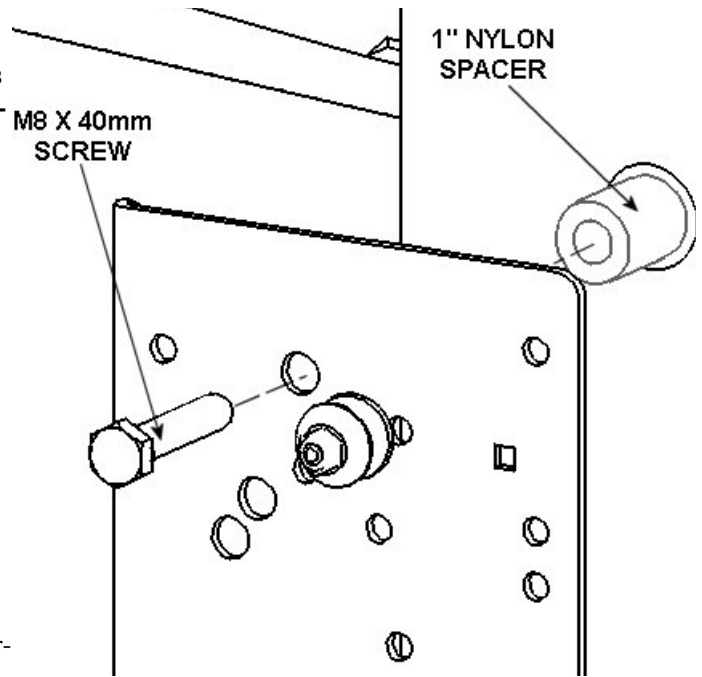
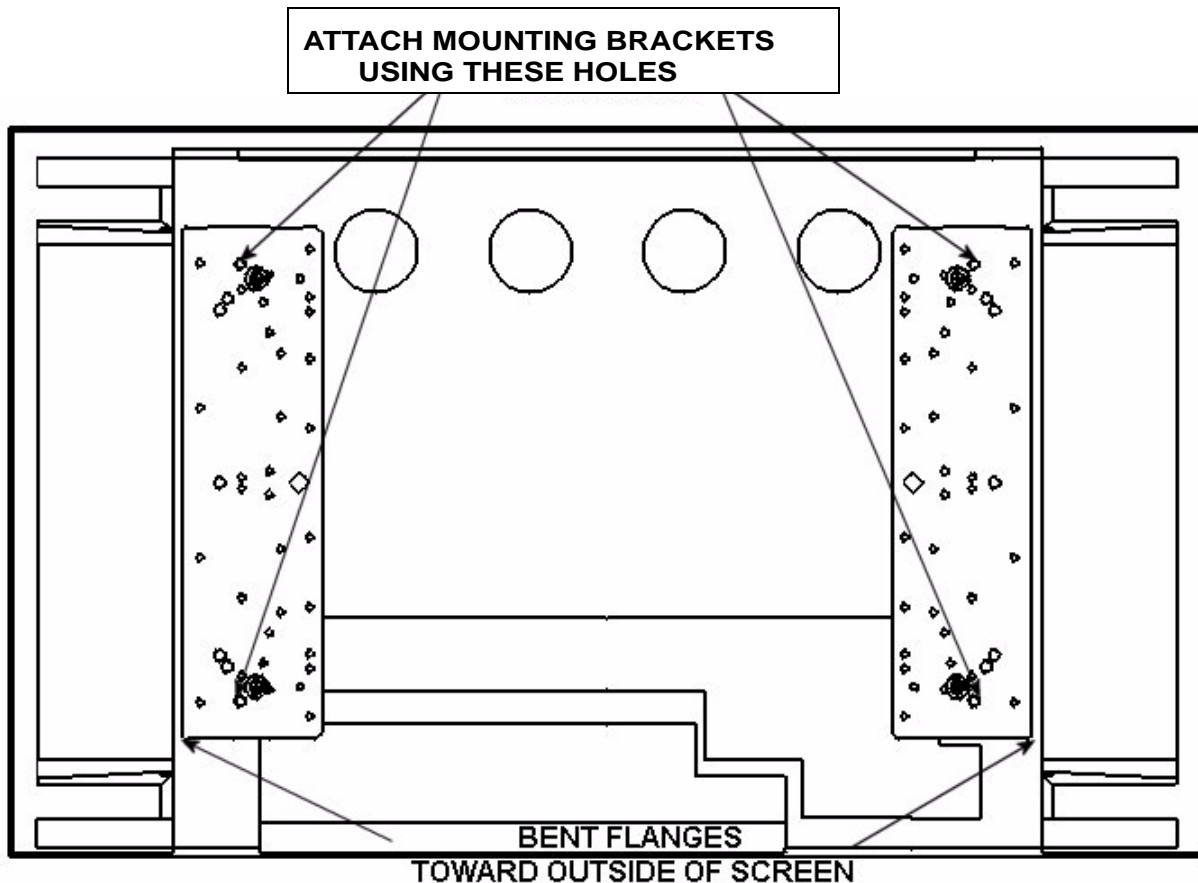

Figure 15. Spacer Installation for Group 6
Figure 16. Bracket Attachment for Group 6
4. Place the interface brackets over the Nylon spacers (see Figure 15 and Figure 16).
6. Using the hardware in the parts bag labeled B, attach the interface brackets to your display in the proper holes in each interface bracket (See Figure 15 and Figure 16). Do not overtighten the mounting screws.